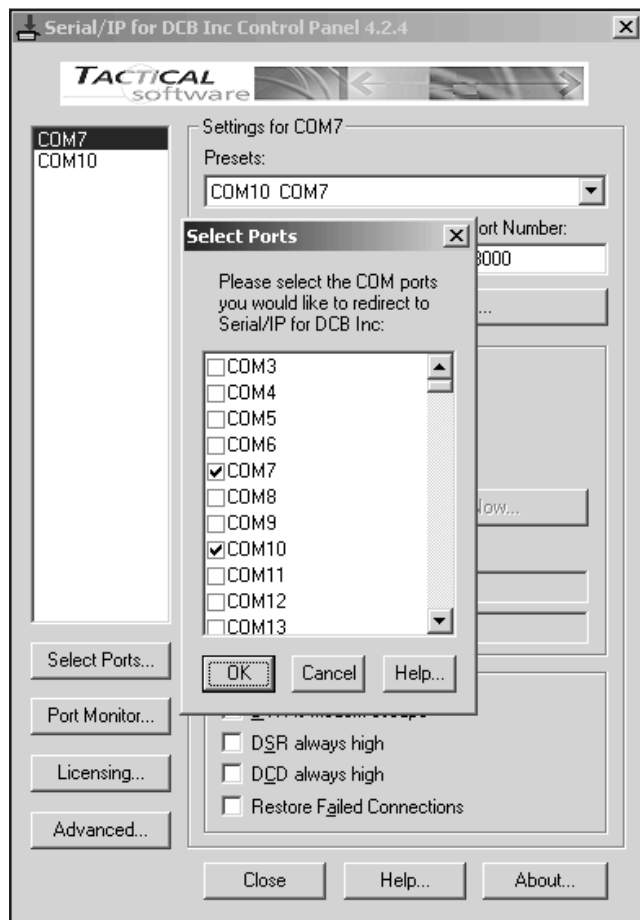

Figure 13 Linking the Com Port to the IP Address
1. To confirm the assigned ports, click the **Select Ports** button to open the Ports dialog (Figure 13).